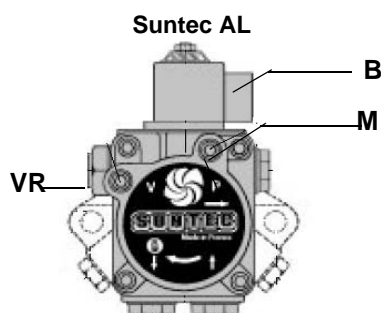

Fig. 18
- 2 remove the **B** coil connector on the pump (Fig. 18) to avoid light oil unexpectedly getting into the combustion chamber;
- 5 bleed the air from the pressure gauge port **M**, slightly loosening its cap, without removing it (see Fig. 18);
- 8 reconnect the **B** coil connector on the pump (Fig. 18);